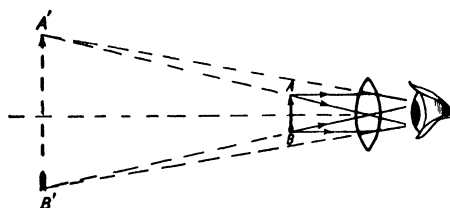

Fig. 35.17. A simple magnifying glass.
b. Simple magnifying glass. A simple magnifying glass, a reading glass, or a simple microscope is a convex lens. The object must be within the focal length, and the eye sees an erect, virtual, and enlarged image. (See Fig. 35.17.)